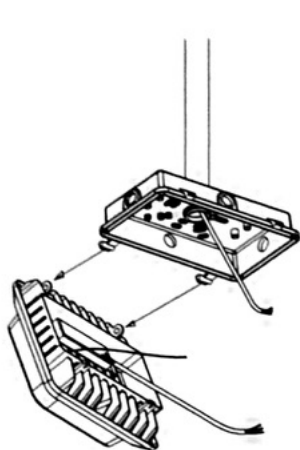

Figure 1-4
4. Insert the mounting hole of radiator horizontally to the shaft of driver cover; Figure 1-4